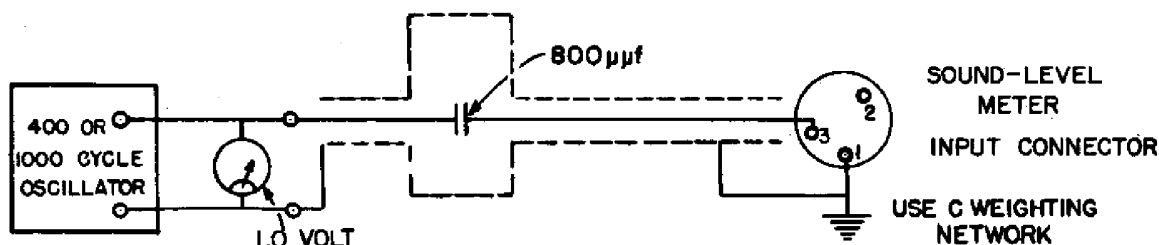

Figure 6. Circuit for Calibrating Amplifier Gain.
3.9 INTERNAL NOISE. Internal noise should not normally affect readings with the attenuator switch set at 40 or higher. If desired, the following procedure can be used to determine how much noise is generated in the instrument. Remove the microphone, and connect an 800- μ f capacitor across terminals 1 and 3 of the microphone socket. This capacitor and its connecting leads must be completely shielded in a metal can connected to either the metal part of the microphone socket or to terminal 1, which is grounded. The connection is identical to that shown in Figure 6, except that a short circuit replaces the oscillator.
3.10 AMPLIFIER GAIN. With the Sound-Level Meter set for normal operation with C weighting, apply a 1.0-volt, 400- or 1000-cycle signal to the microphone socket through a shielded 800- μ f capacitor, as shown in Figure 6. The meter reading should agree with that given below for the sensitivity of the microphone used. (Microphone sensitivity is listed at the front of this manual, as well as on a label inside the instrument.)